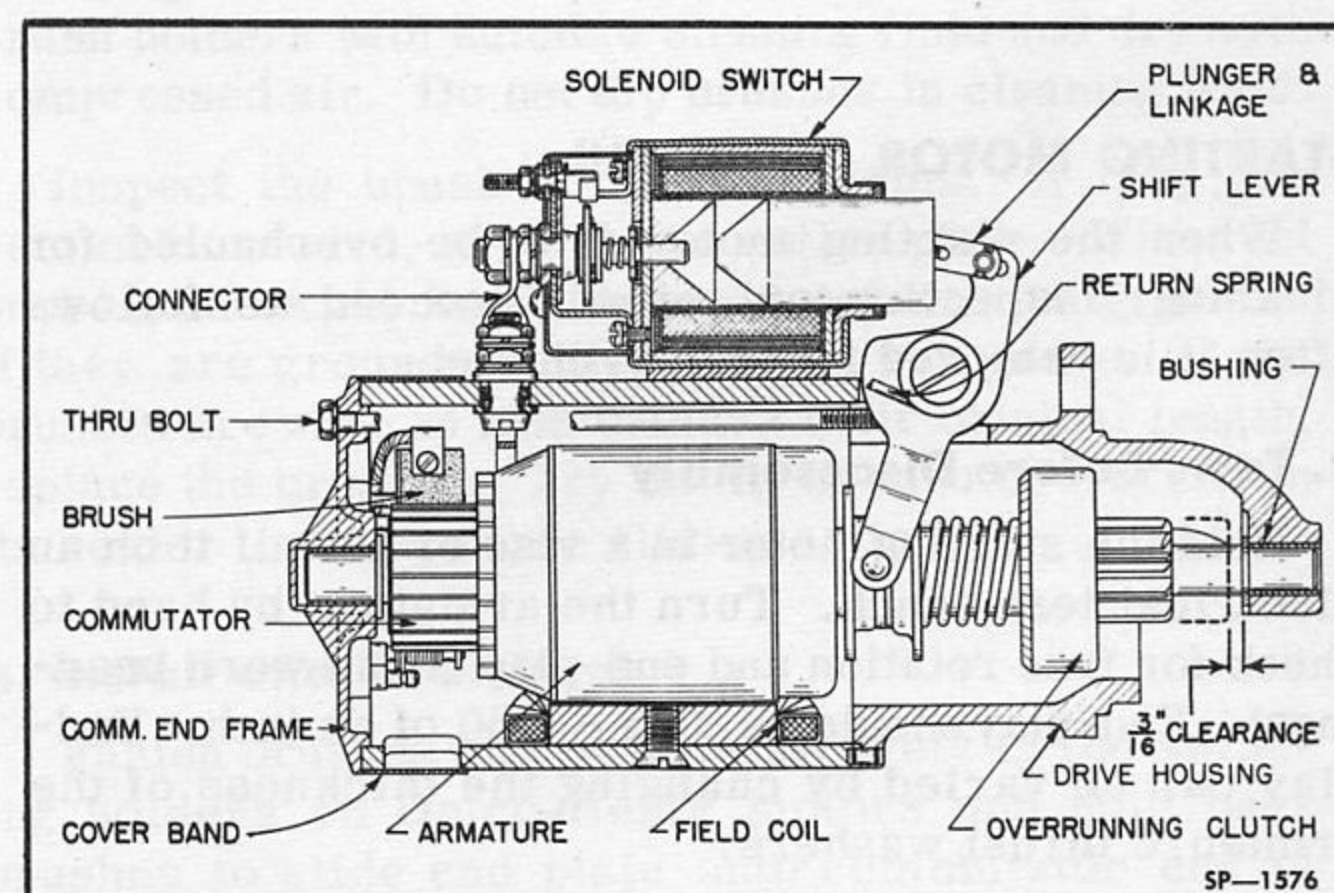

Fig. 286—Delco-Remy Starting Motor—Sectional View
- (e) Loosen solenoid mounting bolts and move solenoid until $\frac{3}{16}$ inch pinion clearance is obtained as shown in Fig. 286. Remove battery voltage test lines from solenoid, install metal connector and install starting motor to engine.
The starting motor can be assembled in the reverse order of its disassembly. Be sure end plates are installed in the same position on the frame as they were originally. After the motor is assembled, test the brush springs for proper tension as described above. It is also necessary to adjust the position of the solenoid on Delco-Remy motors to obtain proper pinion clearance of 3/16 inch between the drive pinion and the housing with the pinion in the cranking position (see Fig. 286). Clearance is checked by removing the connector between the solenoid and starting motor so the motor will not operate. Then apply battery voltage across the solenoid terminals and push the solenoid plunger in by hand. Battery current will hold the plunger in position while the solenoid mounting bolts are loosened to move the solenoid until 3/16 inch pinion clearance is obtained.